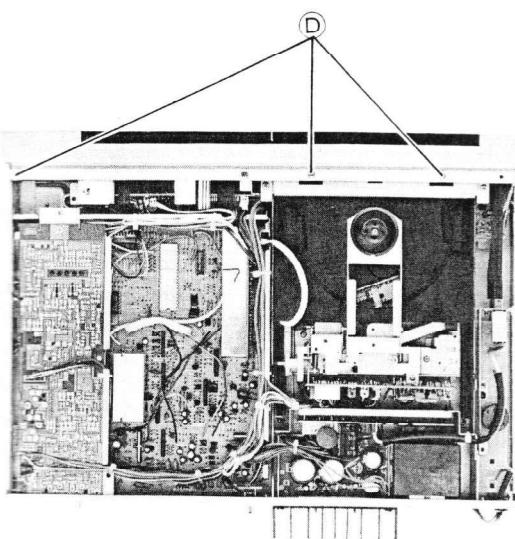

Figure 7
7. Remove three screws **(D)** ( $3\phi \times 6\text{mm}$ ), and three screws **(E)** ( $3\phi \times 8\text{mm}$ ), and the front panel can be removed from unit. (Figure 7 and 8)